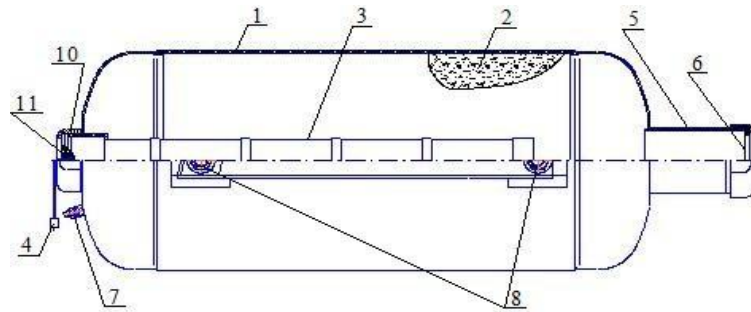
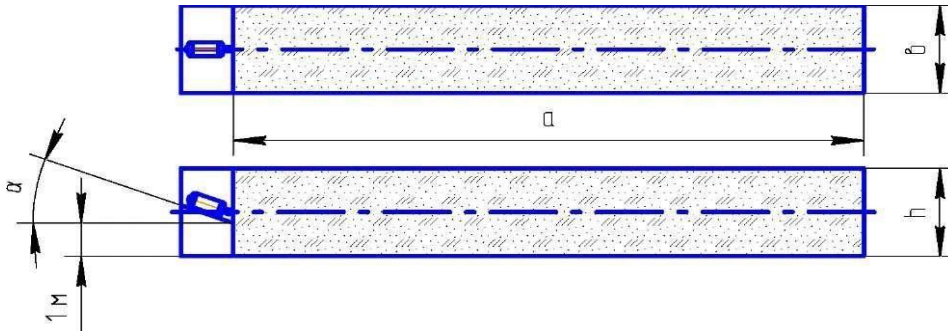
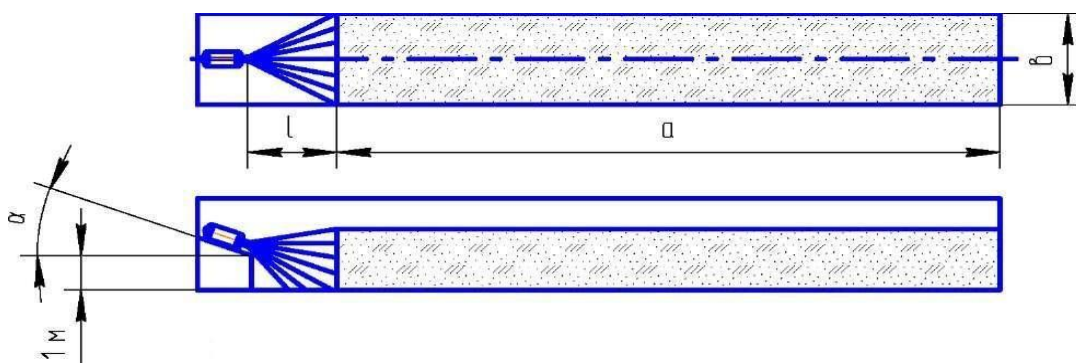
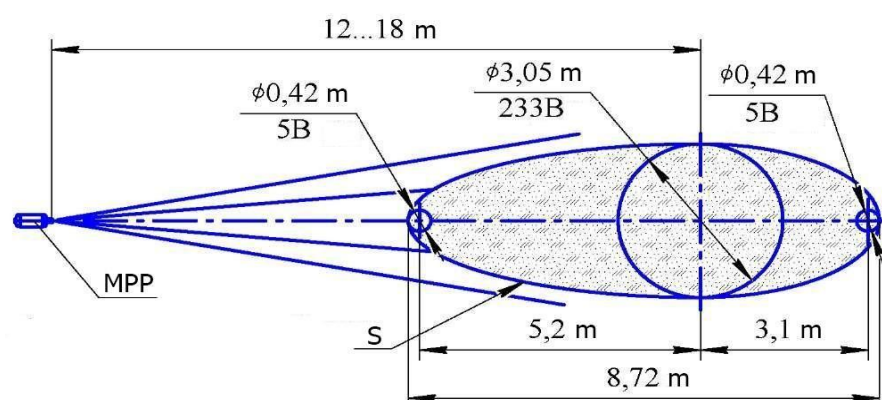

Figure 1
Figure 2
Figure 3. Extinguishing effect on Class A fires and on Class B fires.
Figure 4. Area sketch of the protection area when extinguishing local fires
4.1 MPH (Figure 1.) consists of the pressure body 1 , which includes: extinguishing powder (HP) 2 and cold gas generator (GSP) 3 with electric fuse 4 . On the other side of the hood is the atomizer insert 5 , as well as the outlet, which closes with a membrane 6 . The module is equipped with a grounding terminal 7 . The upper part of the MPH s equipped with a holder 8.
4.3 After receipt of an electrical impulse to the electrical output switch 4GSP 3 (Figure 1,2), the gas generator is activated and generates a cold gas that puts the interior of the container under pressure. As soon as the necessary pressure is present, the membrane opens 6 and the extinguishing powder comes out of the module through the atomizer 5.
6.2 Suspension 8 can be mounted under the ceiling (Figure 1) or suspension 9 (Figure 2) can be attached to the wall. Please mark the places for attaching the suspension as on the (Figure 3) and on the wall acc. (Figure 4).
6.6 The configuration of the powder dispersion and the representation of the extinguishing surfaces for ceiling mounting are shown in Figure 4 and Tables 2 and 3, and for wall mounting in the following Figures 3 and 4 and Table 1.